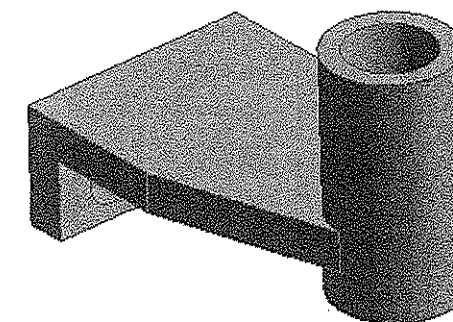

Figure 7-43 The single body created after uniting two solid bodies
13. Next, choose the **Generate** tool from the **Features** toolbar; the fill body and the main body merge into a single body, as shown in Figure 7-43.
Figure 7-43 shows the model with the three holes and the groove cut removed. Now, you can generate an effective mesh on it.